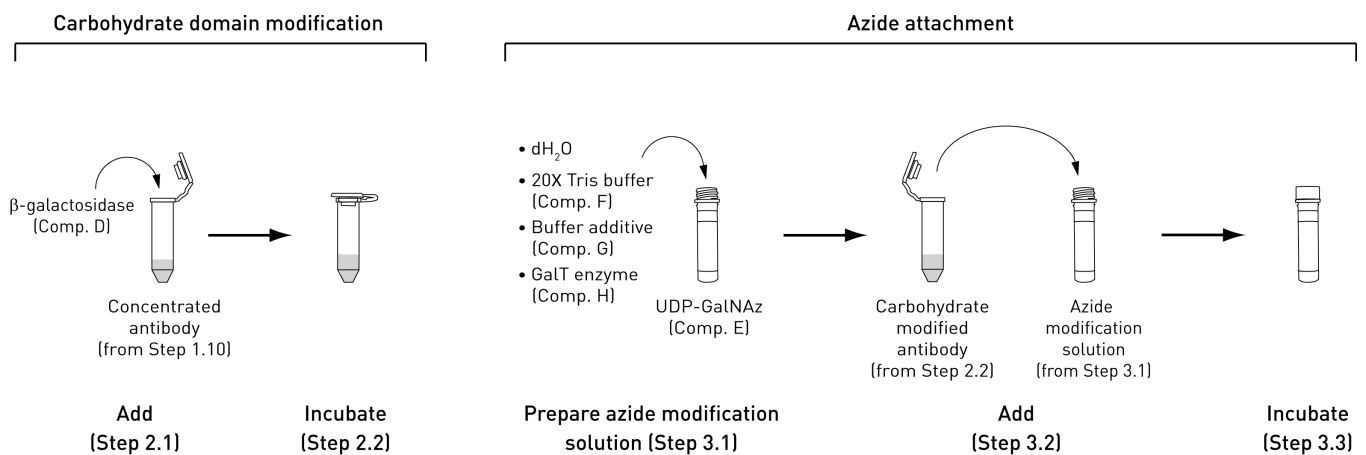

Figure 3 Modification of antibody carbohydrate domain and azide attachment
2.1 Add 10 μL of β -galactosidase (Component D) to the antibody collected in Step 1.10, as shown in Figure 3.
- 3.1 Prepare the azide modification solution by adding the following components to the tube containing UDP-GalNAz (Component E), as shown in Figure 3 (page 4):